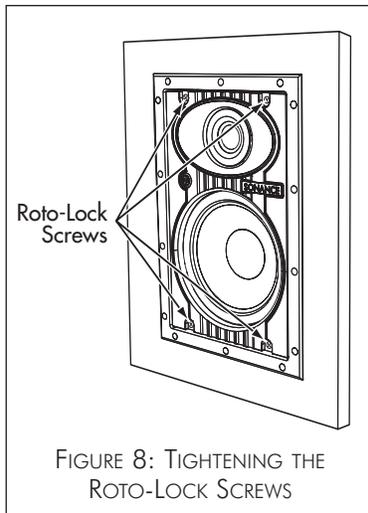

FIGURE 8: TIGHTENING THE ROTOLock SCREWS
5. Tighten the four screws on the front of the speaker baffle. The RotoLock clamps will automatically rotate into position and begin clamping the speaker (*Figure 8*).